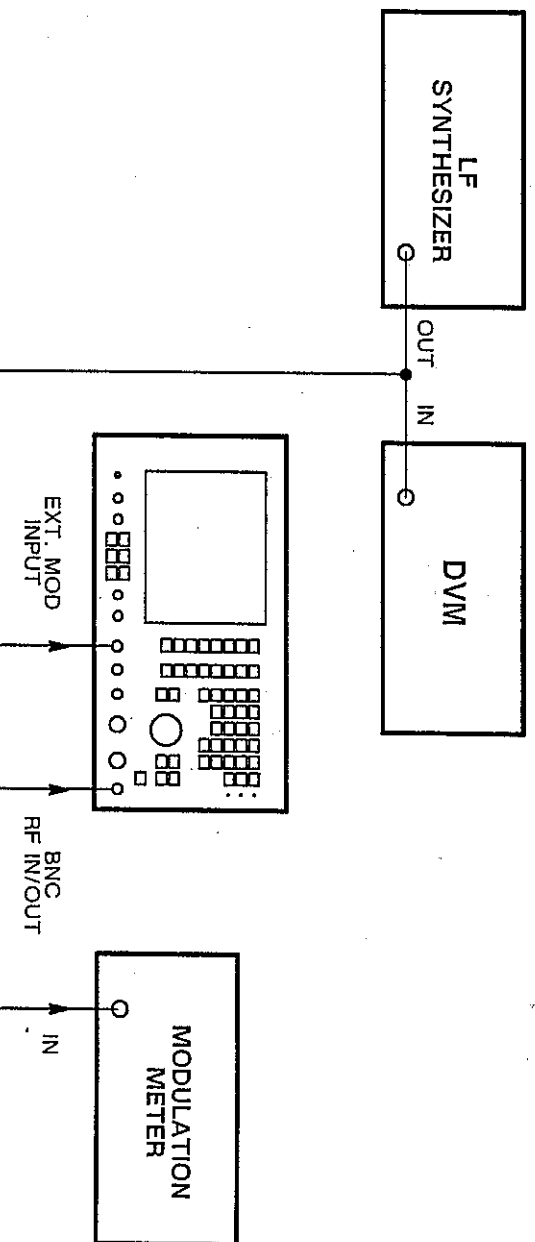

Fig. 6-25 Test equipment connections for RF generator external AM and FM
- (1) Connect the LF synthesizer and the DVM to the EXT MOD INPUT socket. Connect the modulation meter to the RF IN/OUT BNC socket. See Fig. 6-25.
- (2) On the 2955A, set the MODE to RECEIVER TEST, GEN FREQ to 100 MHz, LEVEL to 0 dBm, MOD to AM, MOD FREQ to 1 kHz, MOD LEVEL to 0%, SHAPE to SINE, DIST'N, S/N and SINAD to off and RF IN/OUT socket to BNC.
- (3) Set the synthesized LF generator to give a 1 kHz sinewave output and adjust the level to give a DVM reading of 530 mV RMS (1.5 V p-p).
- (4) Set the modulation meter to AM in a 0.3 to 3.4 kHz bandwidth.
- (5) On the modulation meter, check that the reading is 30%  $\pm 10\%$   $\pm 1\%$  AM (i.e. 26 to 34%).
- (6) On the 2955A, reset MOD to FM, LEVEL to 0 kHz.
- (7) Set the synthesized LF generator to give a 1 kHz sinewave output and adjust the level to give a DVM reading of 353 mV RMS (1.0 V p-p).
- (8) Set the modulation meter to FM in a 0.3 to 3.4 kHz bandwidth.
- (9) On the modulation meter, check that the reading is 5 kHz  $\pm 10\%$ .
- (10) On the 2955A, reset MOD to AM, LEVEL to 0%.
- (11) Repeat (3) to (9) at other external modulating frequencies between 50 Hz and 15 kHz.